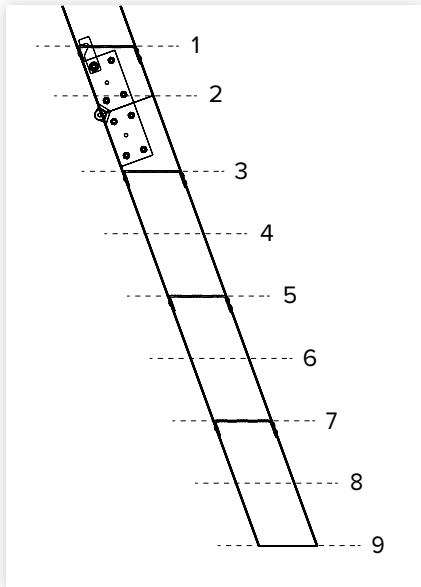

figure 11
3. Use the table below and Figure 11 to determine the cut position: